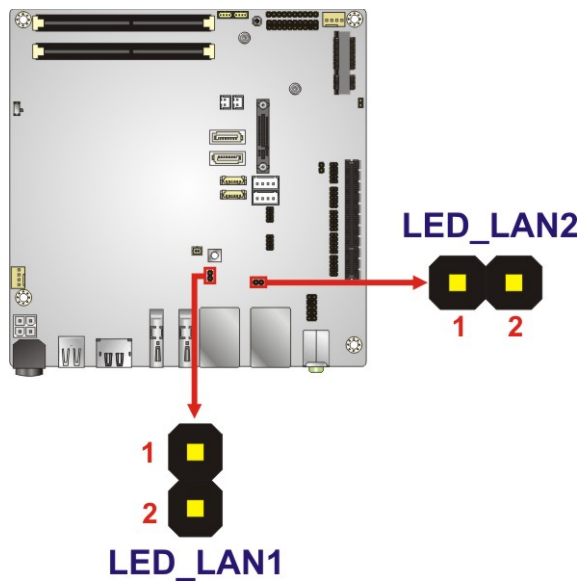

Figure 3-12: LAN LED Connector Locations
- CN Location:** See **Figure 3-12**